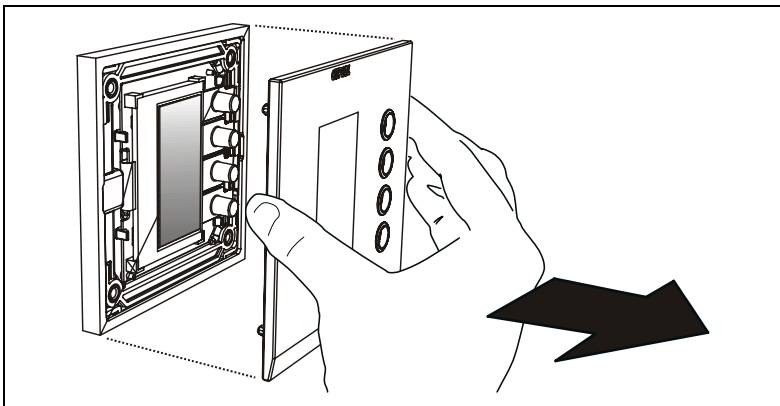

Figure 3 – Removing the facia on an Ulti Saturn 'E' Series DLT unit
- 3) Hold the facia with your hand and carefully pull it off the grid plate, as shown in Figure 3.